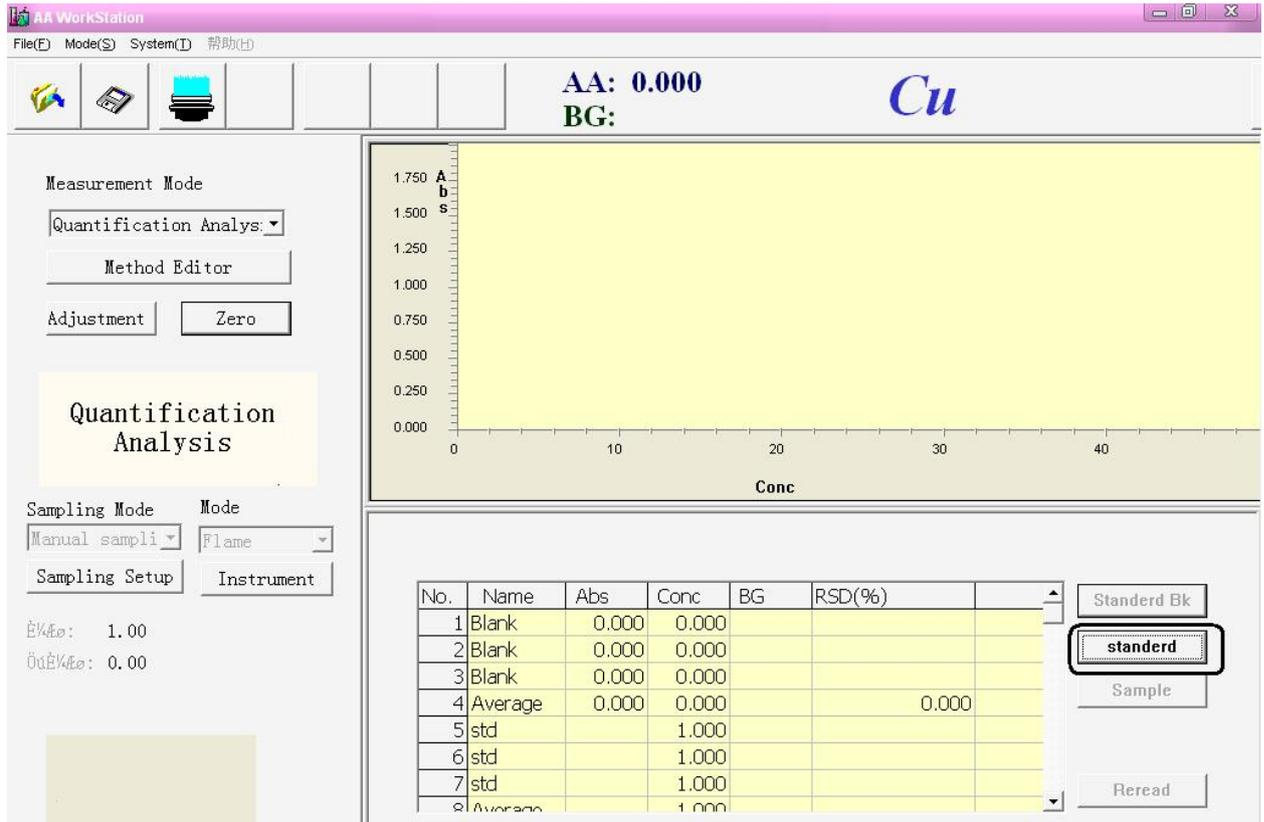

Figure 5-12
9. Spurt and absorb standard asmples again, press **【Standard Bk】** button, shown in Figure 5-12, finish the test of standard blank